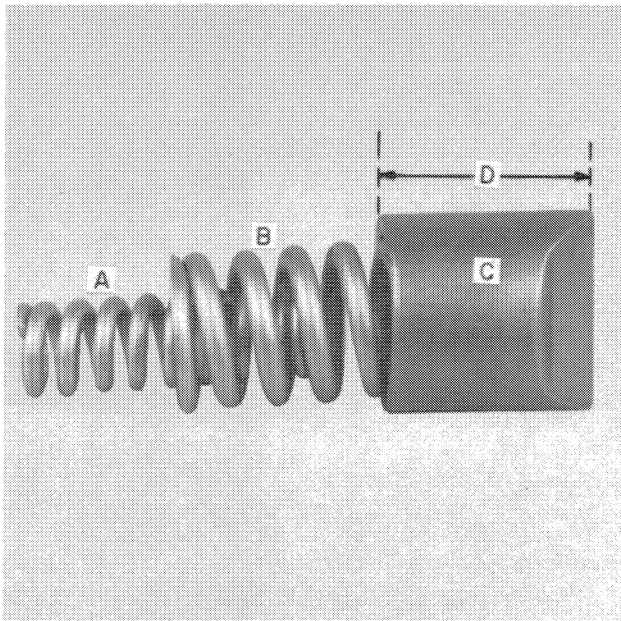

Figure 2-21
Total height of the pins, D, Figure 2-21, should not be less than 0.650" (18.5 mm). Use a 0-1" (0-25 mm) micrometer to measure the pins accurately.
5. Insert inner spring, A, Figure 2-21, (if applicable) and outer spring, B, into pin C. Do this for each pin.